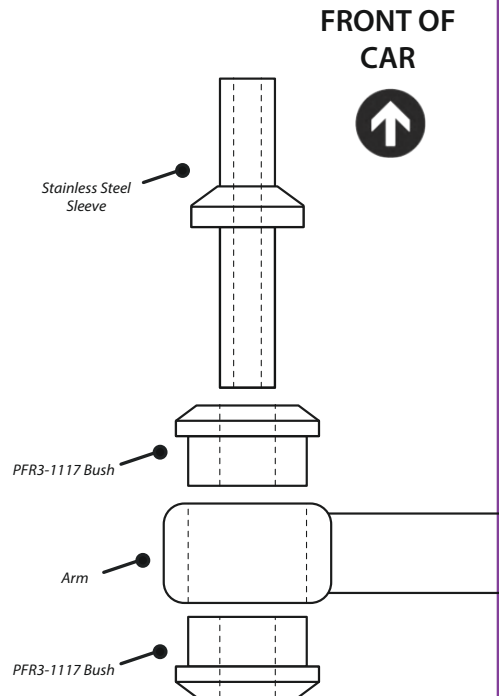

Figure 1
**Note: Please refer to Figure 1 for the orientation of the Sleeve. The lip of the Sleeve should be facing the front of the car.**